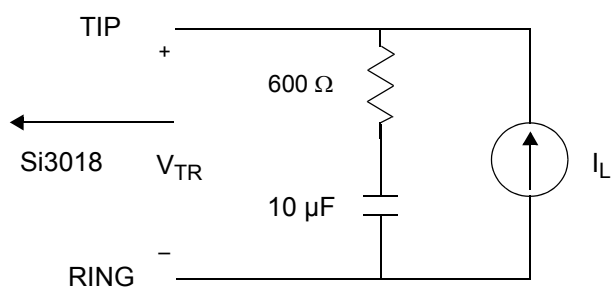

Figure 1. Test Circuit for Loop Characteristics
1. Measured at TIP and RING with 600  $\Omega$  termination at 1 kHz, as shown in Figure 1 on page 5.